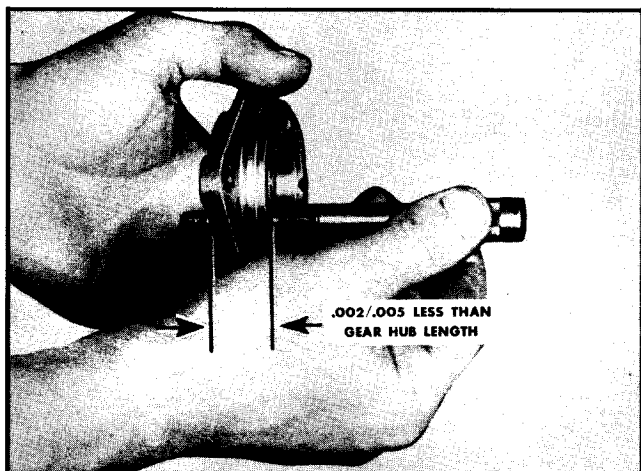

Fig. 10-7. Checking width of bearing cage
4. The end thrust can be checked by measuring the bearing cage width and the distance from the thrust face of the gear to the end of the gear hub. The bearing cage width must be .002 to .005 less than the length of the gear hub. Figs. 10-7 and 10-8. If the difference between these two dimensions is greater than .005, the end thrust is excessive. New gears, thrust washers, and bearing cages should be used.